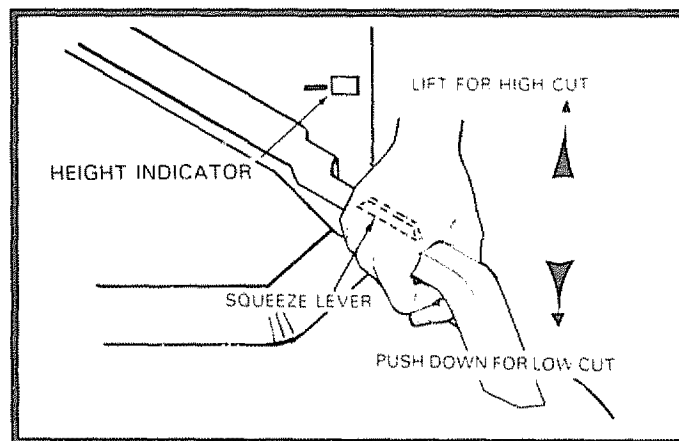

FIG. 14
- To raise lawn mower to a higher position, grasp the Adjusting Handle and squeeze the Red Lever in the Handle to release (See Fig. 14).
- To change height of cut positions, while squeezing the Red Release Lever, push down or lift up on Handle until desired position is viewed (See Fig. 14).
- The mid cut position (4) is approximately the 2 1/2" cut height.